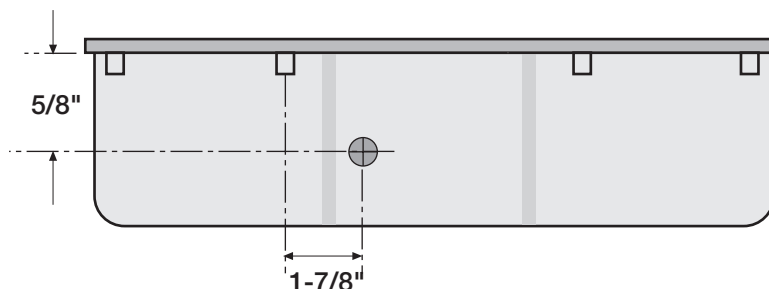

Fig: 2-a / Front of Oil Pan
A. To provide an oil drain for the supercharger, it is necessary to make a hole in the oil pan. Locate and mark hole per diagram. (See Fig. 2-a.) The drain hole must be punched rather than drilled.